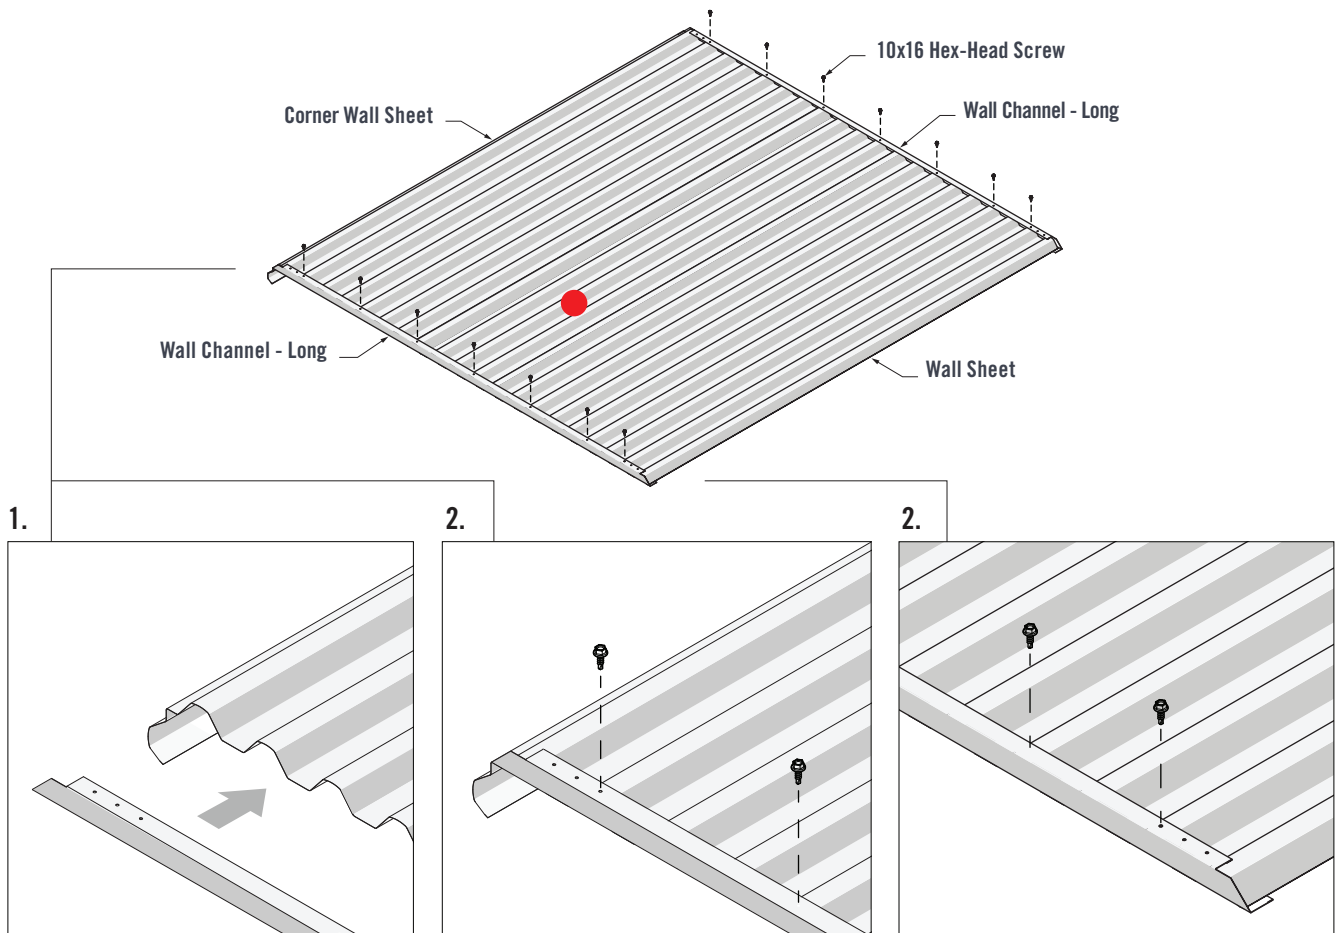

FIGURE 2.2
1. Fit the Wall Channel (Long) over the lapped Wall Sheets. The end of the Wall Channel should fit up against the end of the Corner Wall Sheet (Figure 2.2).
2. Wall Channels have three pilot holes in each end. Fasten through the third pilot hole of both Wall Channel ends and into the Wall Sheet crests. Fasten through the Wall Channels and into every third Wall Sheet crest using five 10x16 Hex-Head Screws in each Wall Channel (Figure 2.2).